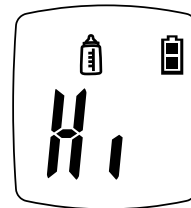

Figure 4.4
- When measurement value is higher than 199.4°F (93°C), it displays Hi (Figure 4.4) and gives 4 consecutive beeps and the backlight on the LCD screen will turn red.